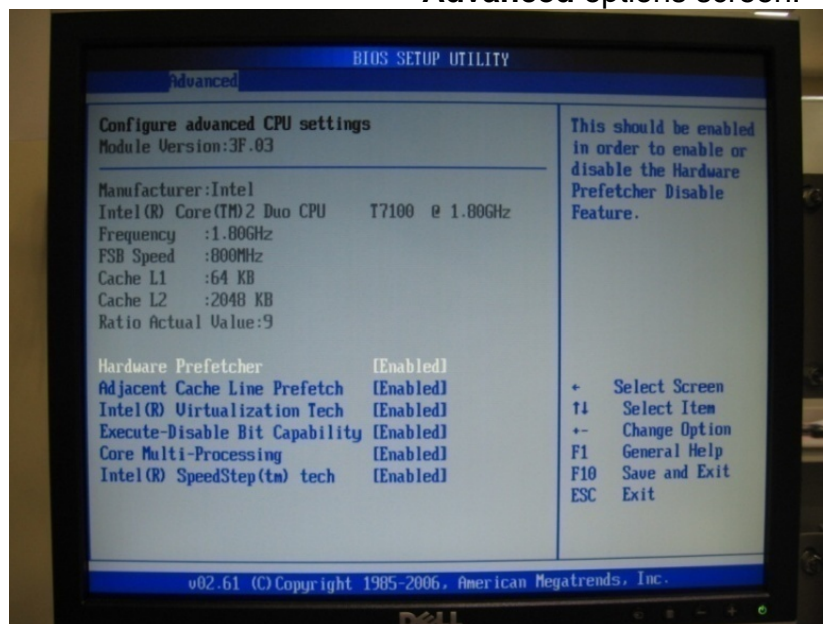

Figure 7-22 CPU Advanced Settings Screen.
12. Default **CPU Advanced Settings** (Figure 7-22). Then press **Escape** to return to **Advanced** options screen.